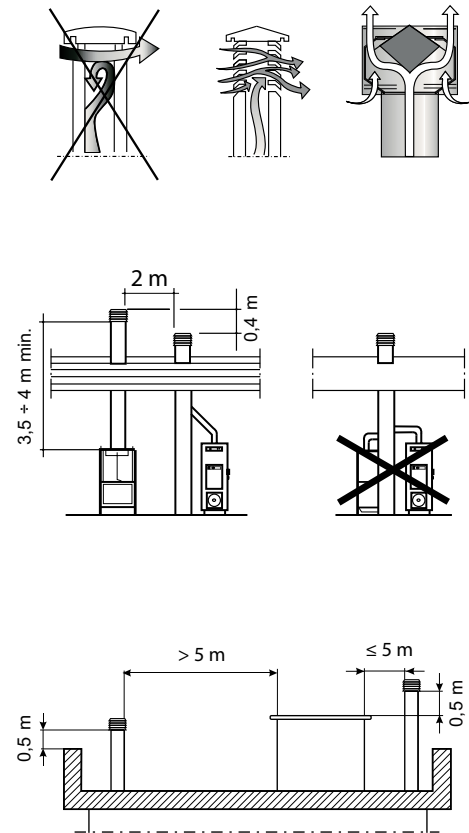

Fig. 6.1.6
- Figure 6.1.6 and 6.1.7 show the data in the table of the UNI 10683 rules regarding distances and positioning of chimney tops are given in Figs. 6.1.6 and 6.1.7.